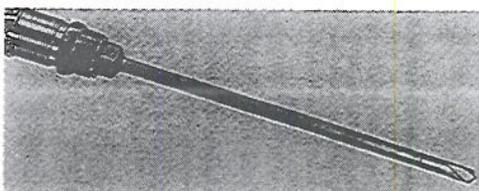

FIGURE 38
5. Coat drill or shell cutter and pilot drill thoroughly with MUELLER Cutting Grease. **Figure 38.**